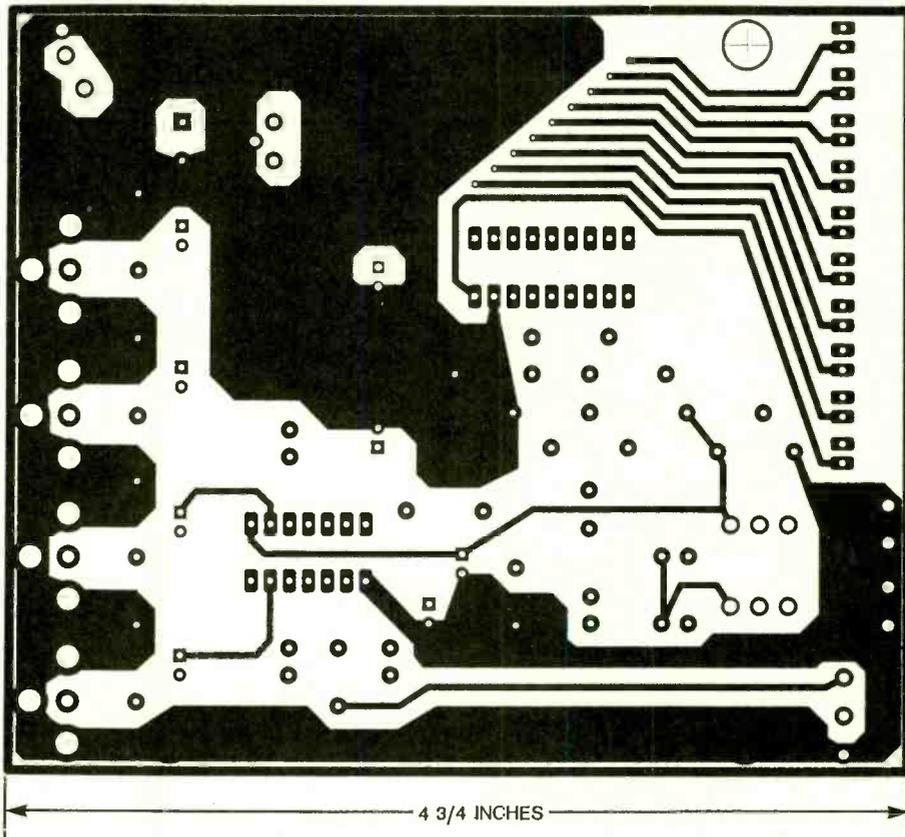
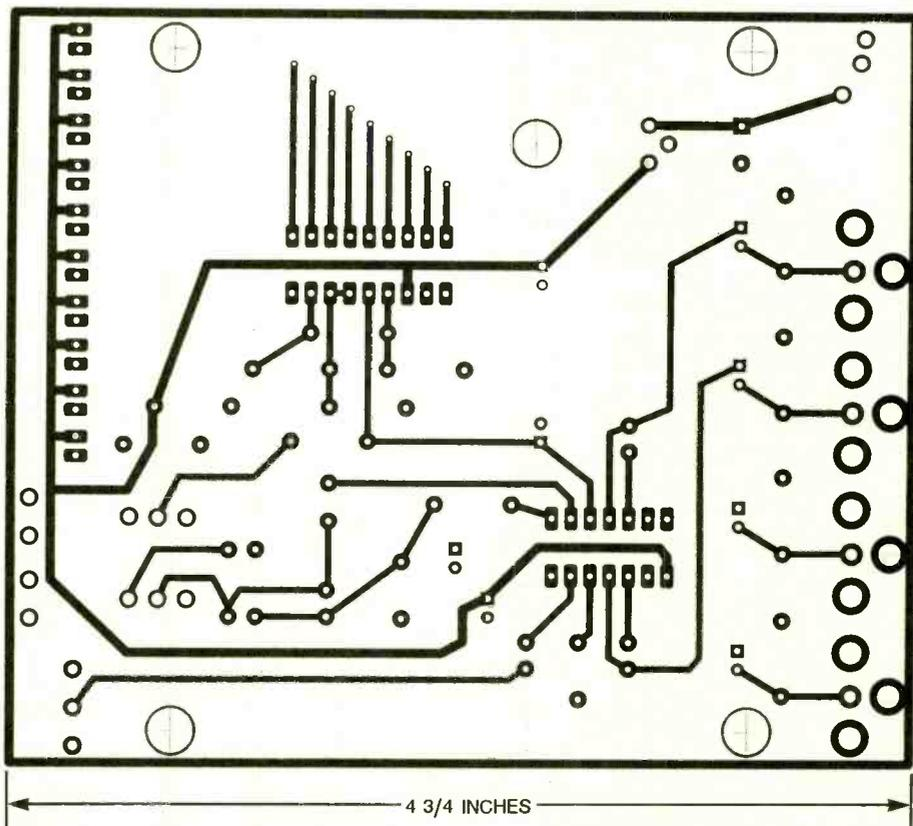

Fig. 3. Here is the component side of the *Universal Noise Reduction System's* double-sided board.
Fig. 4. Here is the solder side of the board. It is shown full size.
**Construction.** The Universal Noise Reduction system is built using a double-sided PC board. The component side of the board is shown in Fig. 3; the solder side is shown in Fig. 4. Once you